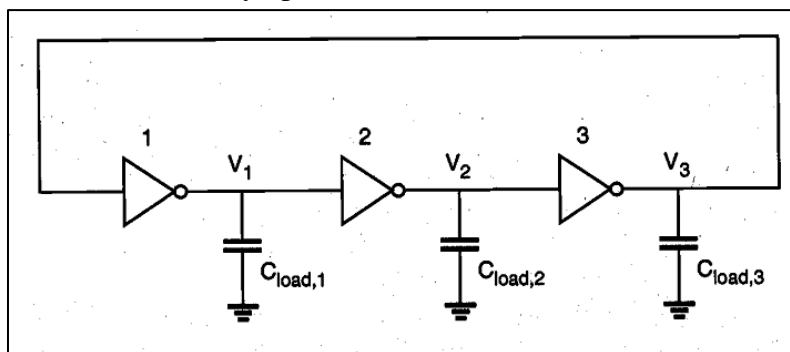

Figure 1: ring oscillator
- 2) Consider a CMOS ring oscillator consisting of an odd number ( $n$ ) of identical inverters connected in a ring configuration as shown in Figure 1. The layout of the ring oscillator is such that the interconnection (wiring) parasitics can be assumed to be zero. Therefore, the delay of each stage is the same and average delay is called intrinsic delay ( $\tau_p$ ) as long as identical gates are used. The ring oscillator circuit is often used to quote the circuit speed of a particular technology using ring oscillator frequency ( $f$ ).